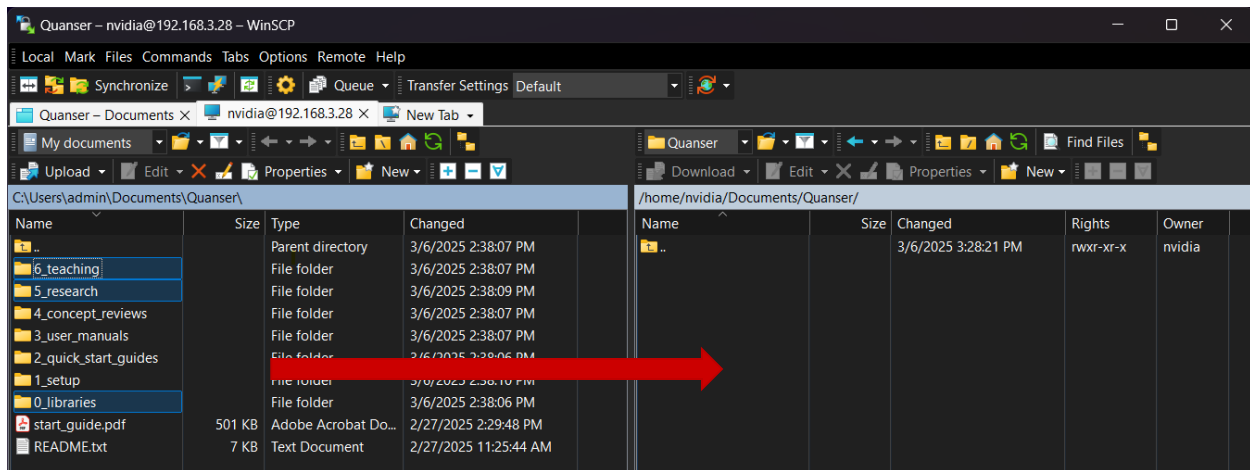

Figure 4. Transferring files to QCar
1. Make a directory on the QCar for Quanser resources where files will be transferred to and from. We recommend creating a folder called Quanser under Documents. The following directory should now exist: `/home/nvidia/Documents/Quanser`. To connect to the QCar2 and create this directory, we recommend using WinSCP, as shown in figure 4. (see the User Manual - Connectivity for how to remotely connect to the QCar).
2. Using WinSCP, on your PC side, navigate to `Documents/Quanser`. On the QCar 2 side, navigate to your new *Quanser* folder. Your WinSCP window should look like figure 4. From your PC side, copy/drag the **o_libraries**, **5_research** and **6_teaching** folders over to your new Quanser folder in the QCar2.